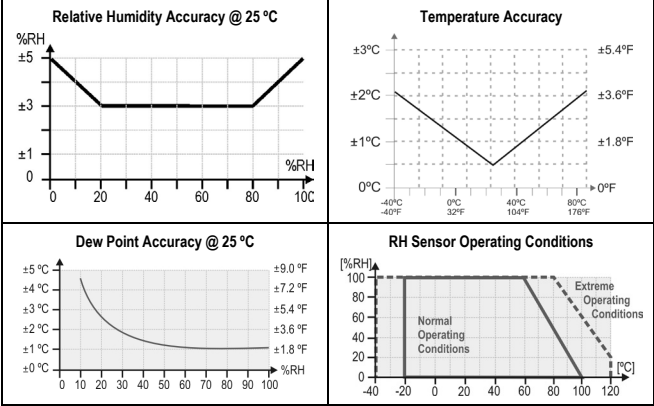

Fig. 01 – RH and temperature accuracies
Total accuracy: Refer to Fig. 01;
Sensor (XS) : See Fig. 01.
Humidity sensor has a total span of 0 to 100 % and accuracy of 3 % at 25 °C, as showed in Fig. 01. This 3 % RH error is the same no matter if the total span is configured (0 to 100 %) or a narrower span (like 20 to 80 %).